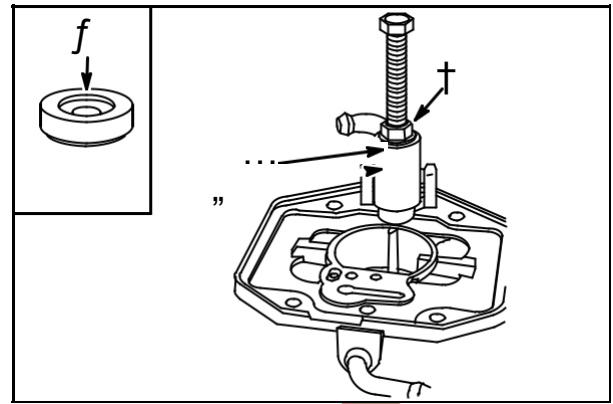

Fig. 105
Install 1/4" x 20 Nut **#92278** (6) and Washer **#224061** (5) from Tool Kit **#19332** onto screw, **Fig. 105**.